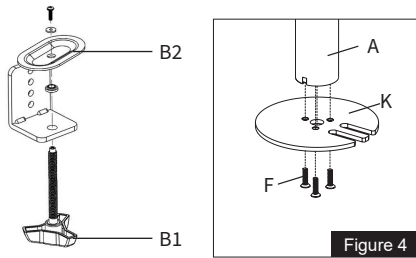

Figure 4
3. Install grommet base plate (**K**) to the pole (**A**) using x3 M5x14 bolts (**F**). See Figure 4.